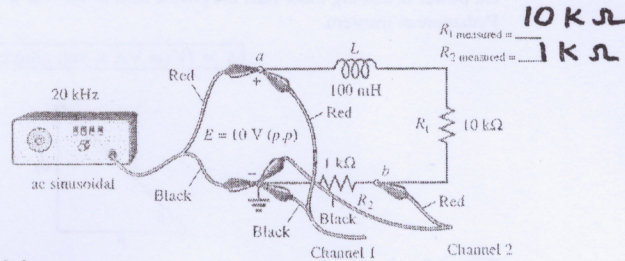

FIG. 16.4
- (a) Construct the circuit shown in Fig. 16.4.
1. For the circuit of Fig. 16.4 calculate the power factor angle,  $\theta$ , where  $\theta = \tan^{-1}(X_L/R_T)$  ignoring  $R_l$  of the coil
2. Determine the impedance and the current in the circuit in Fig. 16.4. (Note: Since the series resistors of the circuit are large compared with the small inherent resistance of the inductor, this small resistance can be considered negligible or  $R_l \ll R_T$ ).